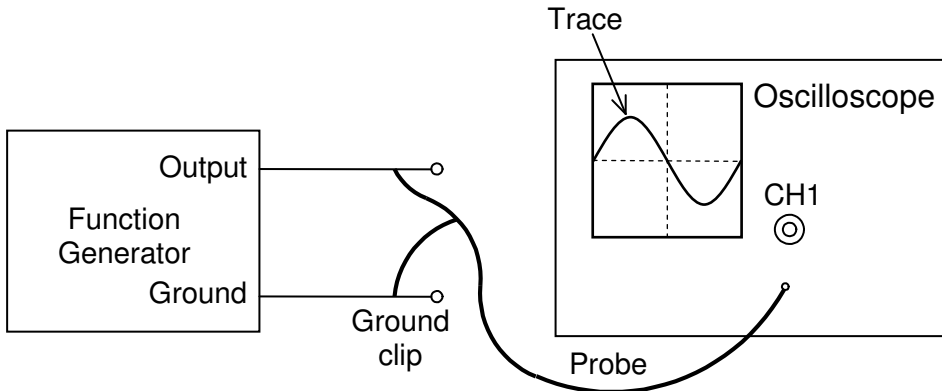

Fig. 1.8. Measuring AC voltage
10. Replace the variable DC power supply with a function generator as shown in Fig. 1.8. Connect the CH 1 input of the oscilloscope to 50 Ω output of the function generator using a BNC-BNC lead (Fig. 1.9). Set input coupling on the oscilloscope to ground and center the trace. Change the input coupling to AC.